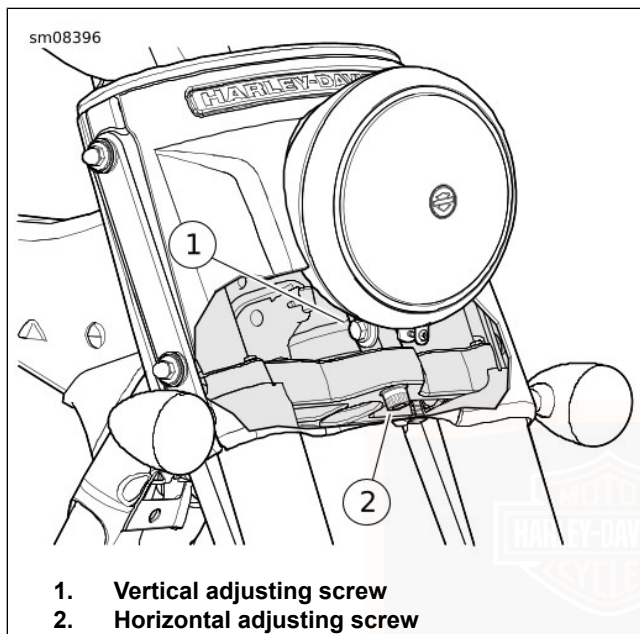

Figure 90. Headlamp Adjustment: FLRT
2. See Figure 90. Loosen horizontal adjustment screw (2). Turn headlamp left or right to direct light beam straight ahead.
3. Tighten screw (2) to: